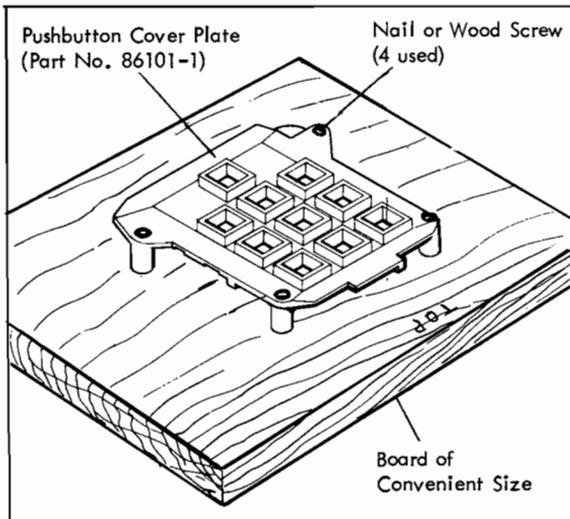

Figure 4. Holding fixture for repair of type 27 Dial
- (1) Place dial face down in a fixture, (See figure 4).
- (2) Rotate the Spring Cover (31) clockwise until it clears the Circuit Board (35). Lift upward to remove it from the screw threads if desired.
- (3) Remove the two locknuts (35) and the two screws (34) that secure the Circuit Board to the Mounting Plate (24).
- (4) Remove the two screws (26) and the two stud-type screws (25) that secure the Mounting Plate to the Cover Plate (2). Lift off the Circuit Board and Mounting Plate group.
- (5) Lift off the Actuator Slide (10) and Pushbutton Frame (9).
- (6) Remove Cranks and Pushbuttons as required.
- (1) Place the Cover Plate (2) face down on the fixture shown in figure 4.
- (2) Place Pushbuttons in proper holes in Cover Plate.
- (3) Place the Horizontal (Row) Cranks in position in the Cover Plate. The arm which contacts the Actuator Slide (10) must be toward the assembler's left and must point upward. The round sections of each crank must ride in appropriate slots.
- (4) Place the Vertical (Column) Cranks in position.